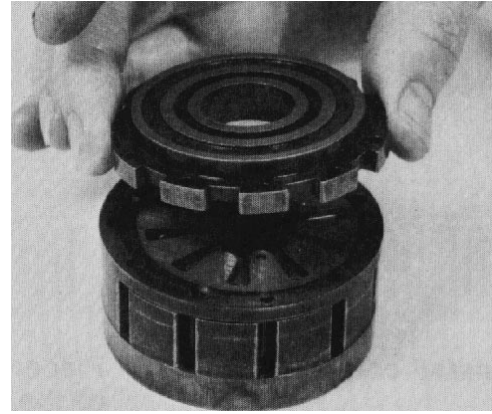

Figure 79
17. Put the commutator cover on top of the commutator ring with the flat surface towards the commutator (Fig. 79). Align the screw holes in the cover, with the screw holes in the drive plate.